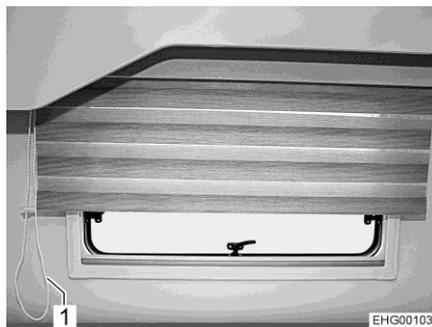

Fig. 107 Vario blind, rear area
- Pull the strand of the pull chain (Fig. 107,1) that closes the Vario blind until the Vario blind is in the desired position.
- Pull the strand of the pull chain (Fig. 107,1) that opens the Vario blind until the Vario blind is in the desired position.